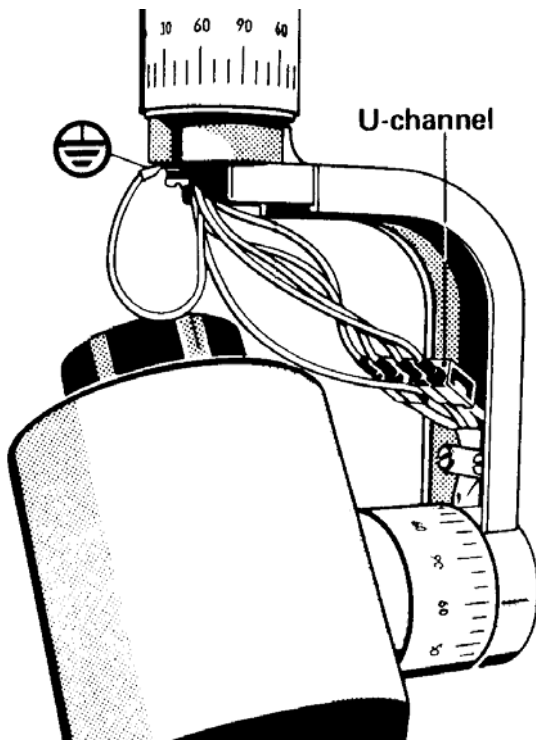

Figure 4-12. X-ray head reassembly, part two.
(5) Connect the five wires of the X-ray tube assembly to the wires of the scissors arm according to the markings. Refer to figure 4-12. and the chart below.